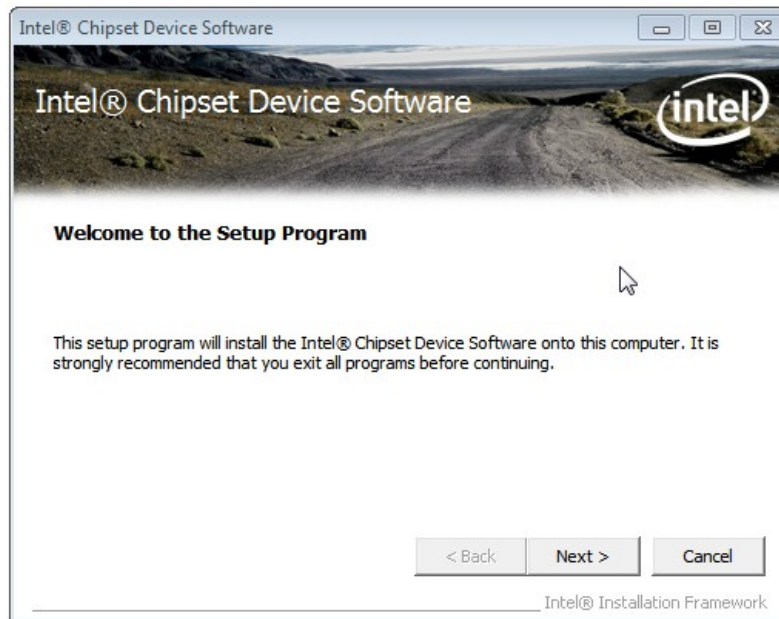

Figure 6-2: Chipset Driver Welcome Screen
- Step 4:** When the setup files are completely extracted, the **Welcome Screen** in **Figure 6-2** appears.